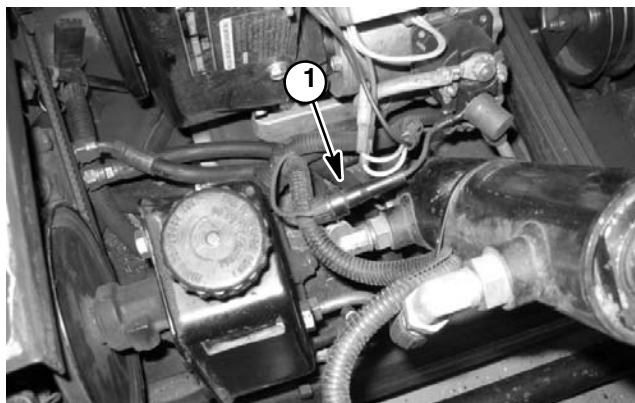

Figure 19
**20 Amp Fuse:** Protects main power circuit to ignition switch terminal B. The 20 Amp fuse is located behind the engine (Fig. 19).